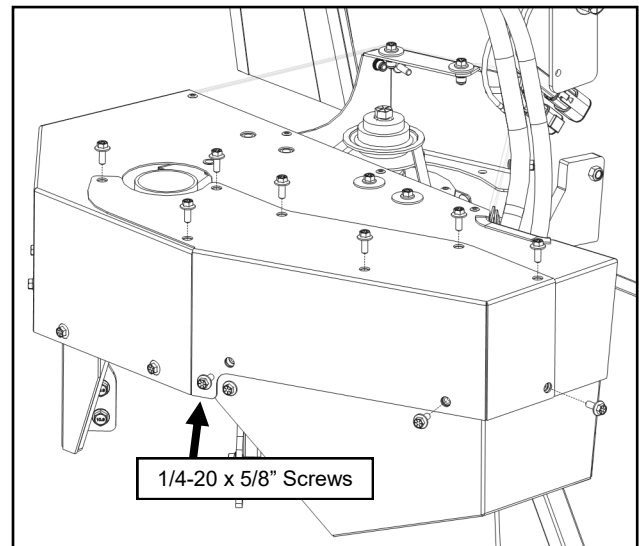

Fig. 2.33 (Access Cover)
- 2.33** Re-install the access cover and the (7) bolts removed in 2.13 along with (3) additional fasteners (2) at the rear and (1) on the side of shroud. See Figure 2.33.